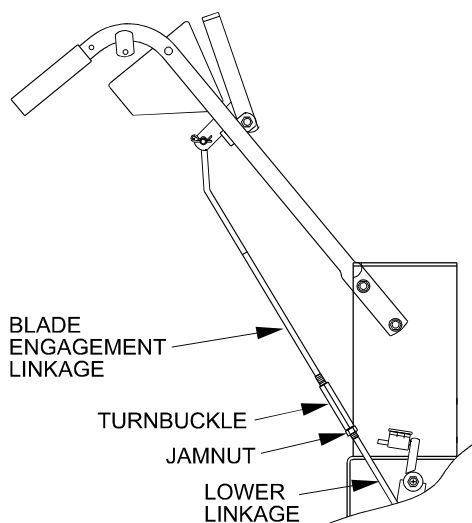

FIG 5
- 3.10 Connect the blade engagement linkages. Loosen jamnut and remove turnbuckle from lower linkage. Screw turnbuckle onto both upper and lower linkages simultaneously (See Fig. 5). Note that threads on upper linkage are left hand. See 5.2.2 for linkage adjustment.